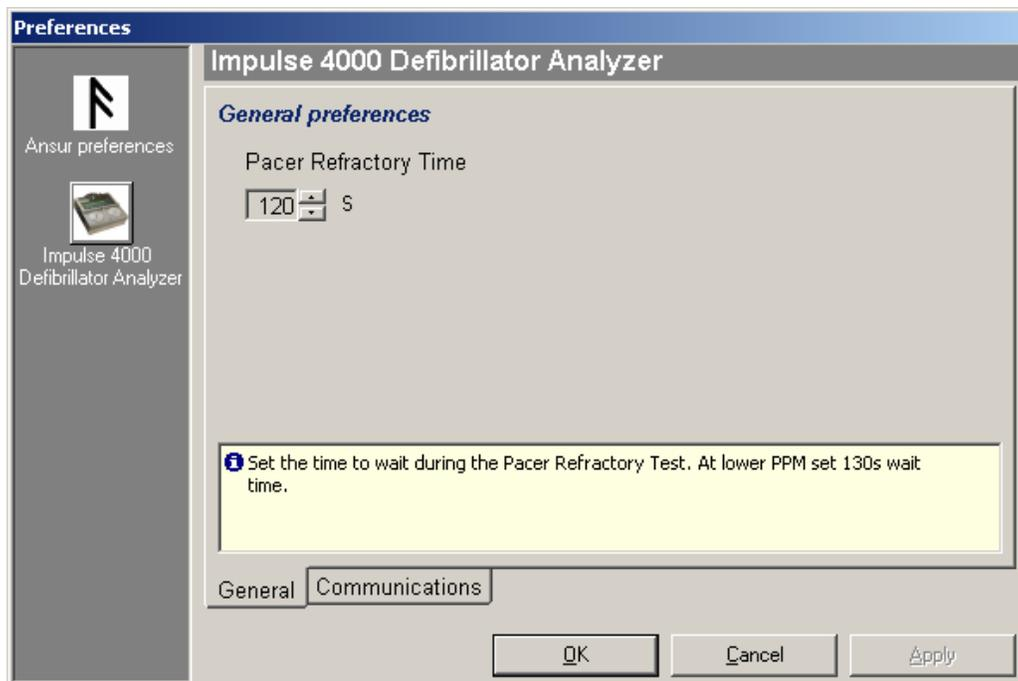

Figure 2-5. Defibrillator Analyzer Preferences
1. Start the Ansur software program and click **Tools | Options** to display the Preferences window shown in Figure 2-5.